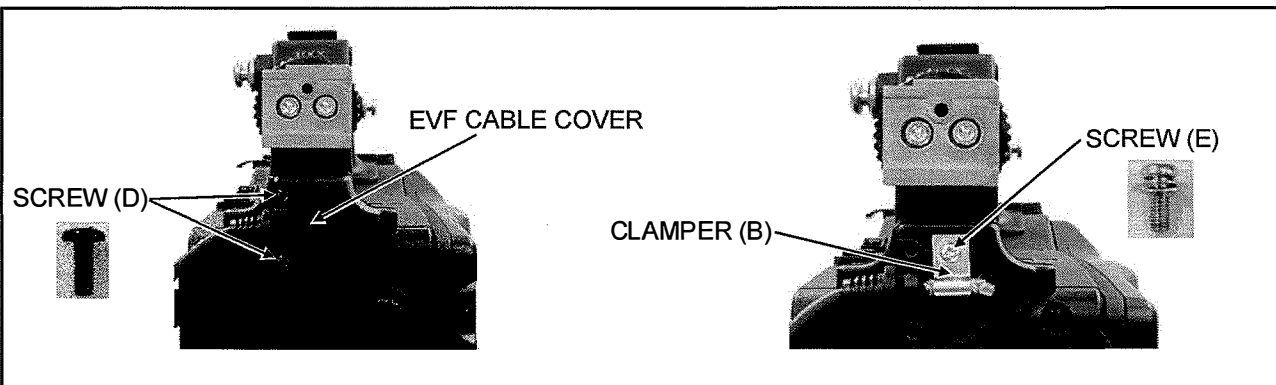

Figure 10-3
7. Unscrew the 2 screws (D) as shown in figure 10-3 and remove the EVF CABLE COVER.
8. Unscrew a screw (E) and remove the wires from CLAMPER (B) as shown in figure 10-3.